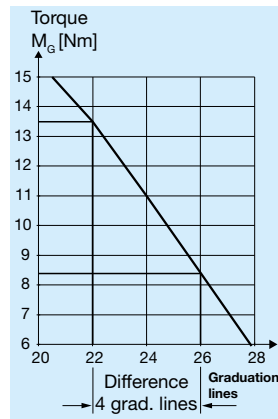
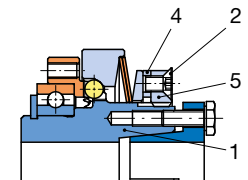

Fig. 4
Fig. 8
EAS®-NC Size 02 (Fig. 8 and Fig. 4):
- Loosen the locking screw (2).
- Grease the thread and contact surfaces on the adjusting nut (5), the locking ring (4) and the hub (1).
- Set the adjusting nut (5) by hand up to contact on the cup spring (9).
- Continue to turn until the four notches on the circumference of the adjusting nut (5) and the notches in the locking ring (4) align.
- Turn the adjusting nut (5) further using a face wrench to the number of graduation lines which equal the required torque (Fig. 4, number of graduation lines in the Adjustment Diagram). The 4 notches on the circumference of the adjusting nut (5) and on the locking ring (4) must be in the same position.
- Paint the locking screw (2) with Loctite 243 and screw it into the adjusting nut (5).